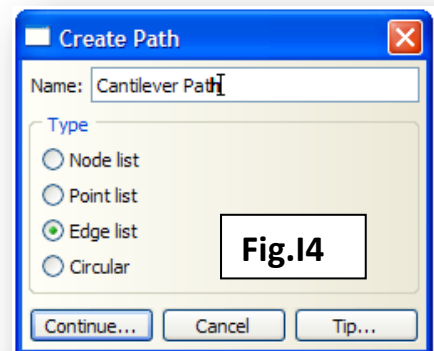

Fig.I4
5. From the main menu bar select **Tools→Path→Create**. The **Create Path** Dialogue box will open (**Fig.I4**).